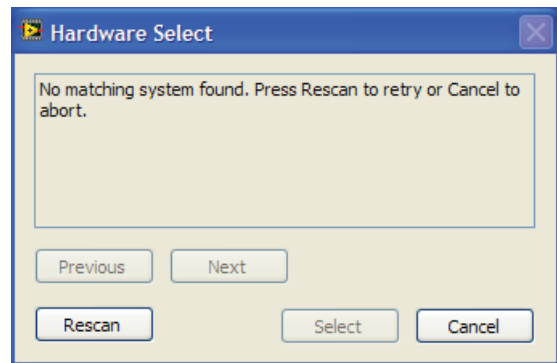

Figure 4. Pop-Up Window Error
2. If the **SDP** board is not connected to the USB port when the software is launched, a connectivity error is displayed (see Figure 4). Connect the evaluation board to the USB port of the PC, wait a few seconds, click **Rescan**, and follow the instructions.